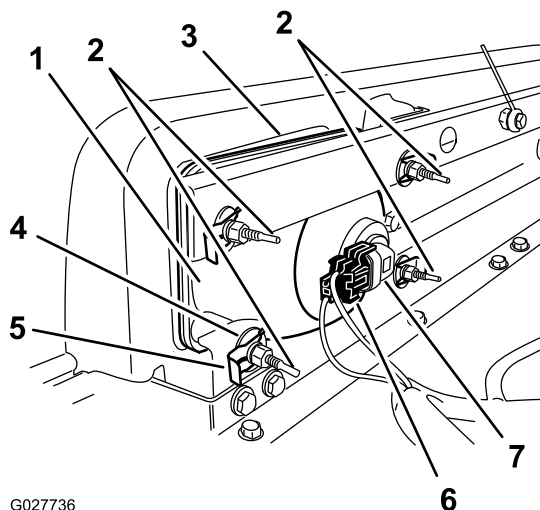

Figure 41
3. Disconnect the electrical connector for the harness from the connector of the lamp assembly (Figure 41).
4. Remove the speed clips and washers that secure the headlight to the headlight bracket (Figure 41).
5. Remove the headlight assembly by moving it forward through the opening in the front bumper (Figure 41).
6. Install the new headlight through the opening in the bumper (Figure 41).
8. Connect the electrical connector for the harness to the connector of the lamp assembly (Figure 41).
2. At the back of the headlight assembly, rotate adjustment screws (Figure 41) to pivot the headlight assembly and align the position of the cast beam.